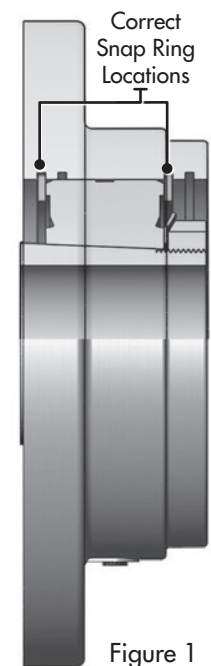

Figure 1
2. **IMPORTANT:** Check the position of the snap rings in the assembled bearing unit. They should be located in the "fixed" position (See fig.1). On occasion they have may been sent in the default "floating" position from the supplier but must be relocated to the "fixed" position before installation.